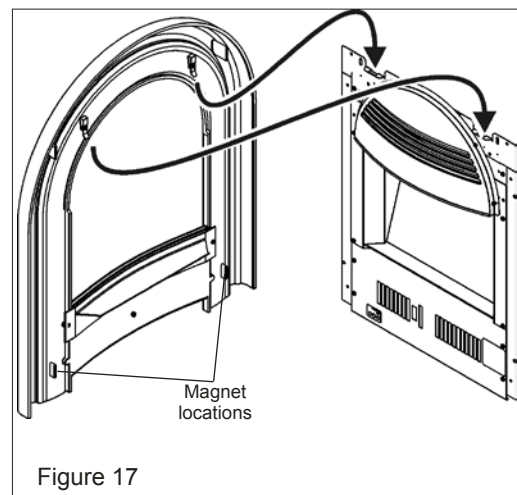

Figure 17
5. There are two magnets on the lower rear of the arch fitted on the two raised sections. Hold the front firmly and lift into place. Keeping the magnets away from the body of the heater, locate the front hanging brackets into those on top of the heater—see figure 17. Lower the front into place and swing the bottom of the front towards the heater to engage the magnets.